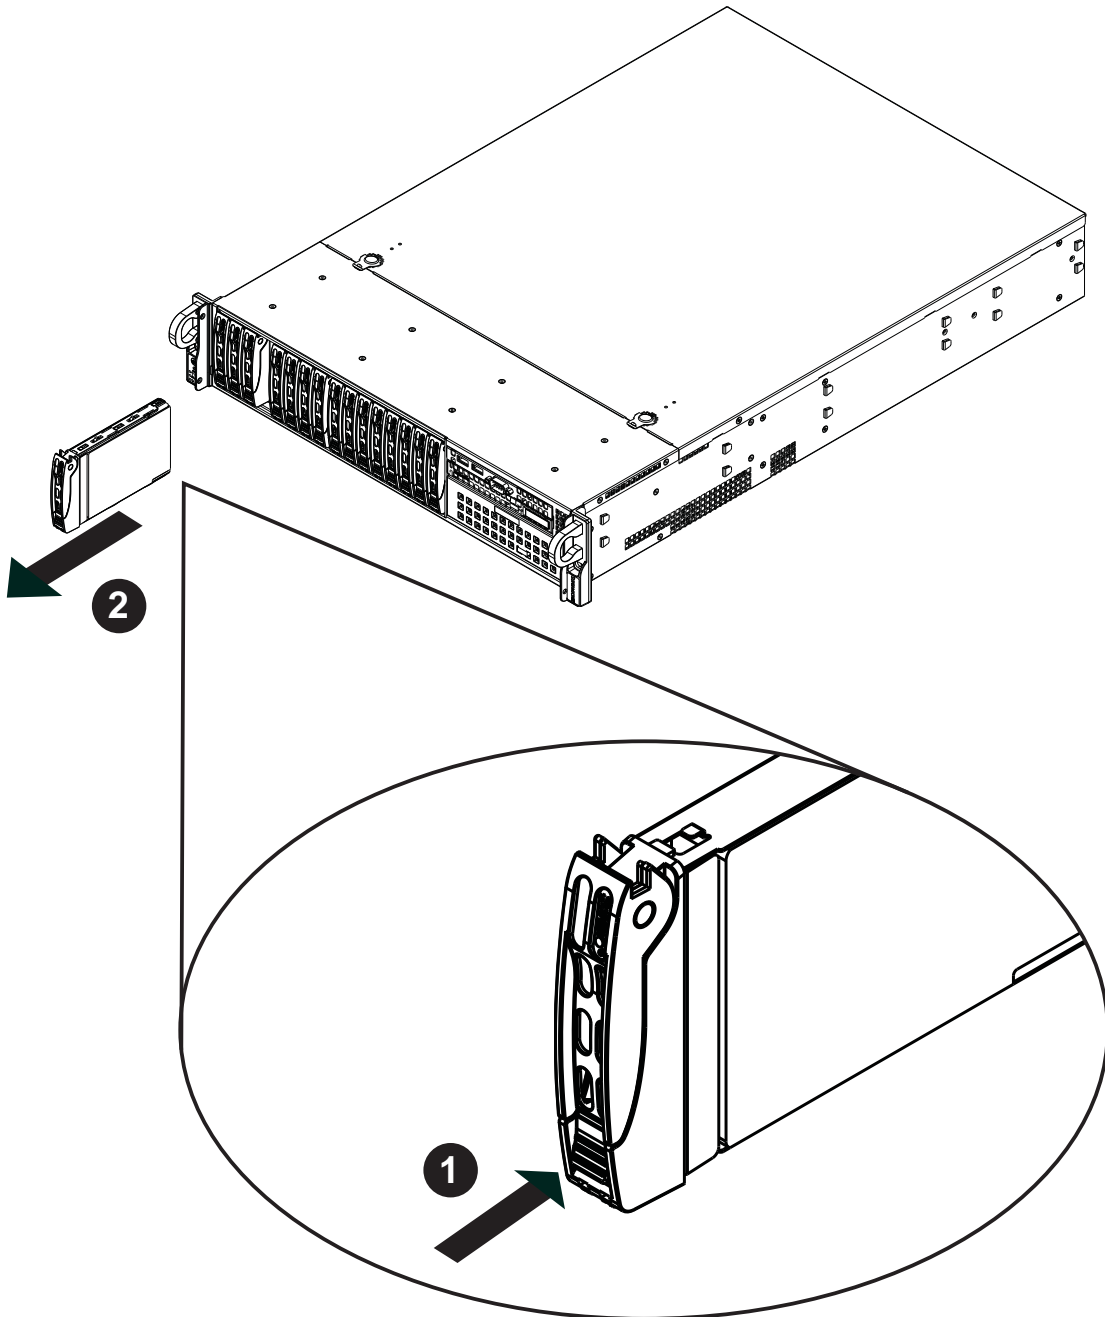

Figure 6-3. Removing a Drive Carrier
3. Remove the dummy drive from the carrier (Figure 6-3).